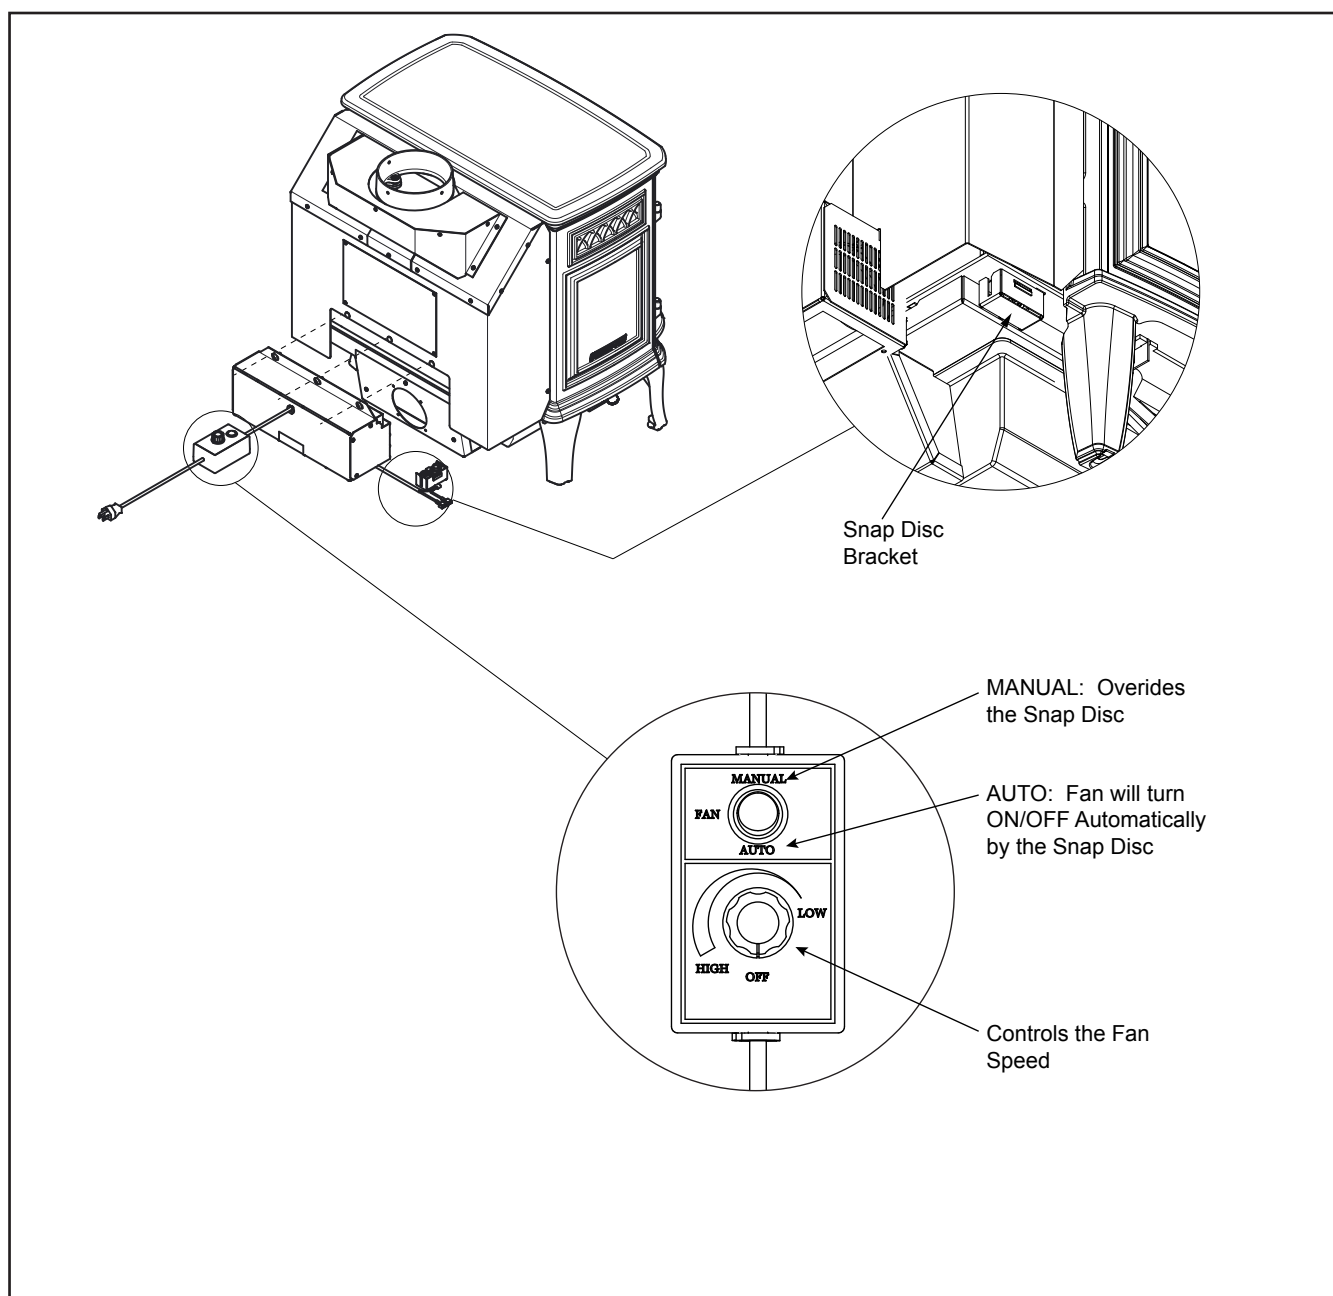

Figure 16.1
2. Align holes in mounting flange of blower with bolt holes in appliance. Blower should be positioned at bottom of rear outer skin as shown in **Figure 16.1**